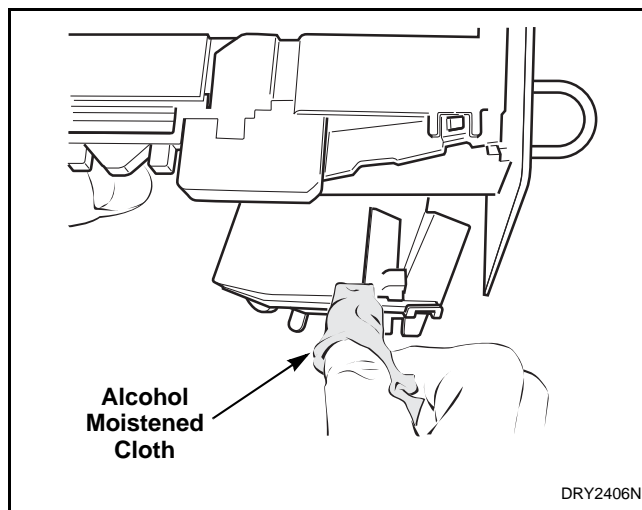

Figure 11
e. Clean residue from coin rail with an alcohol moistened cloth. Refer to *Figure 11*.